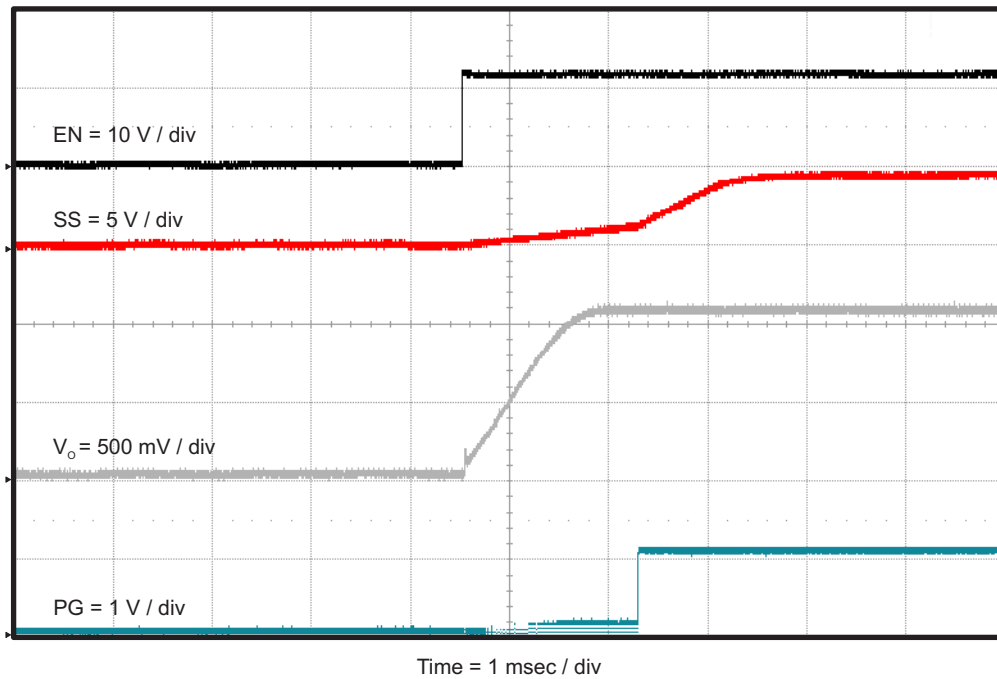

Figure 10. TPS563219EVM-663 Start-Up Relative to EN
The TPS563219EVM-663 start-up waveform relative to enable (EN) is shown in Figure 10. Load = 1 Ω resistive.